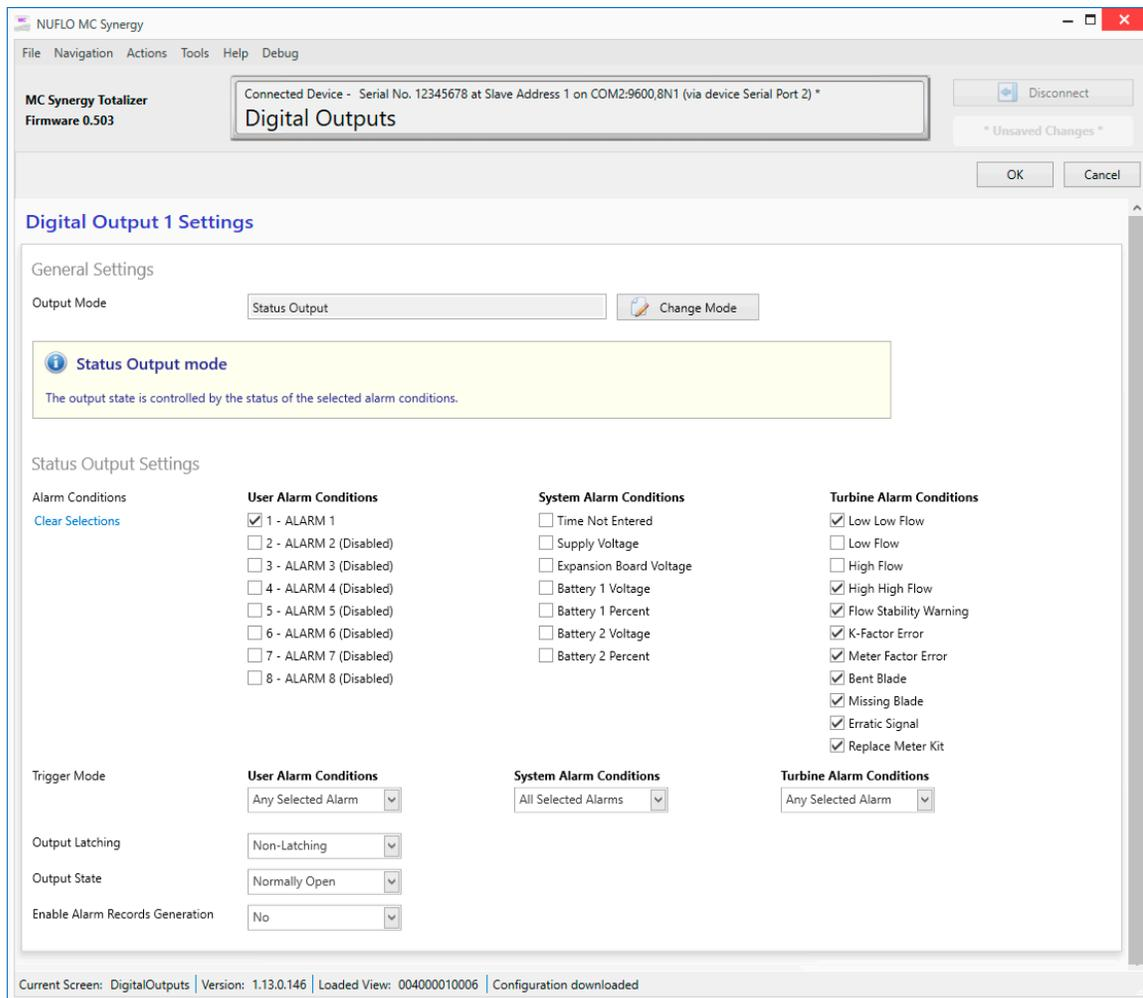

Figure 8.8—Status Output screen
- Status Output. (Figure 8.8, page 77) This setting logs an output each time an alarm trigger condition occurs.